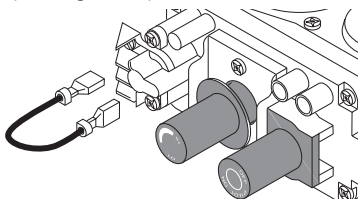

Figure 20 - Disconnecting Jumper Wires From Control Valve
1. Disconnect jumper wires from the control valve (see Figure 20).
1. Remove jumper wire from control valve (see Figure 20).
1. Remove jumper wire from control valve (see Figure 20, page 16).